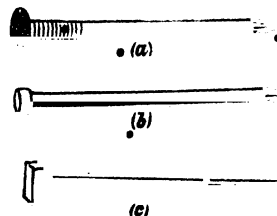

Fig. 84.
**Nails.**—The most common kinds for Manual Training work are shown in Fig. 84.